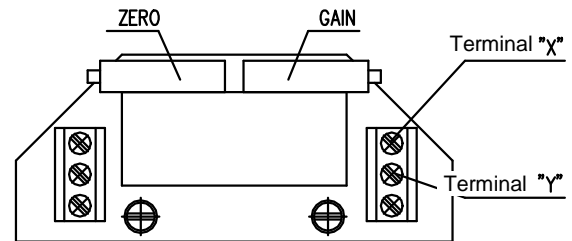

Fig. 7
4.4.2 EPV – 3-wire version (Fig. 7,7a)
- Adjust the resistive transmitter according to the previous chapter. The resistance is to be metered on the terminals X-Y (Fig. 7,7a). The used transmitter resistance is 2000 Ω or 100 Ω .